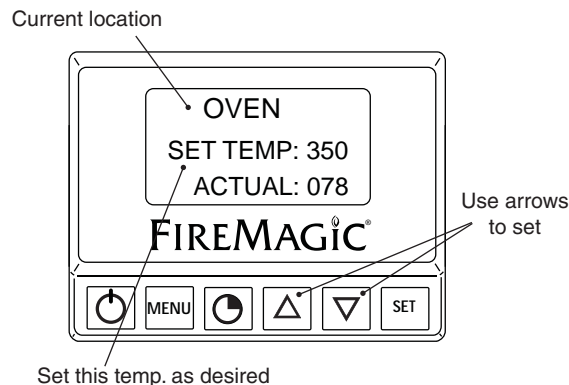

Fig. 15-1 Area temp. screen (oven shown)
2. The selected location's temperature screen will be displayed. Use the arrows to set the desired temp. The actual temp. will also be shown (see Fig. 15-1).